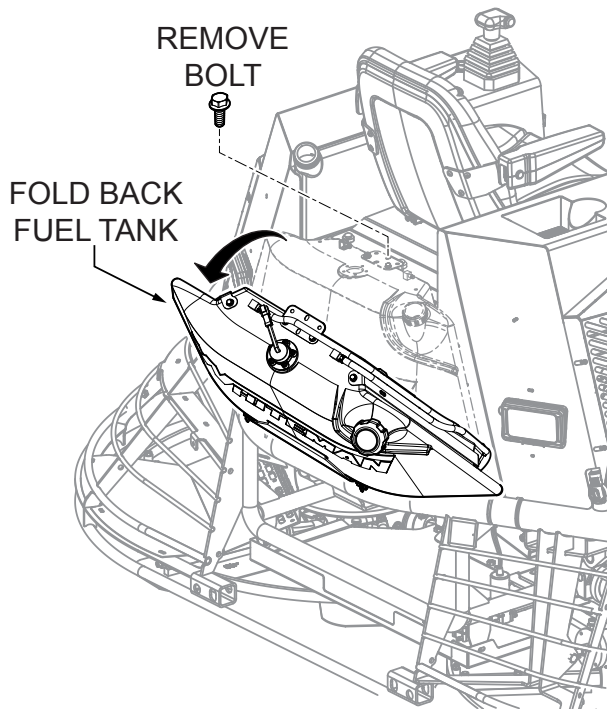

Figure 2. Gas Tank Bolt Removal
8. Remove 10 mm bolt at the gas tank to allow it to fold back (Figure 2).